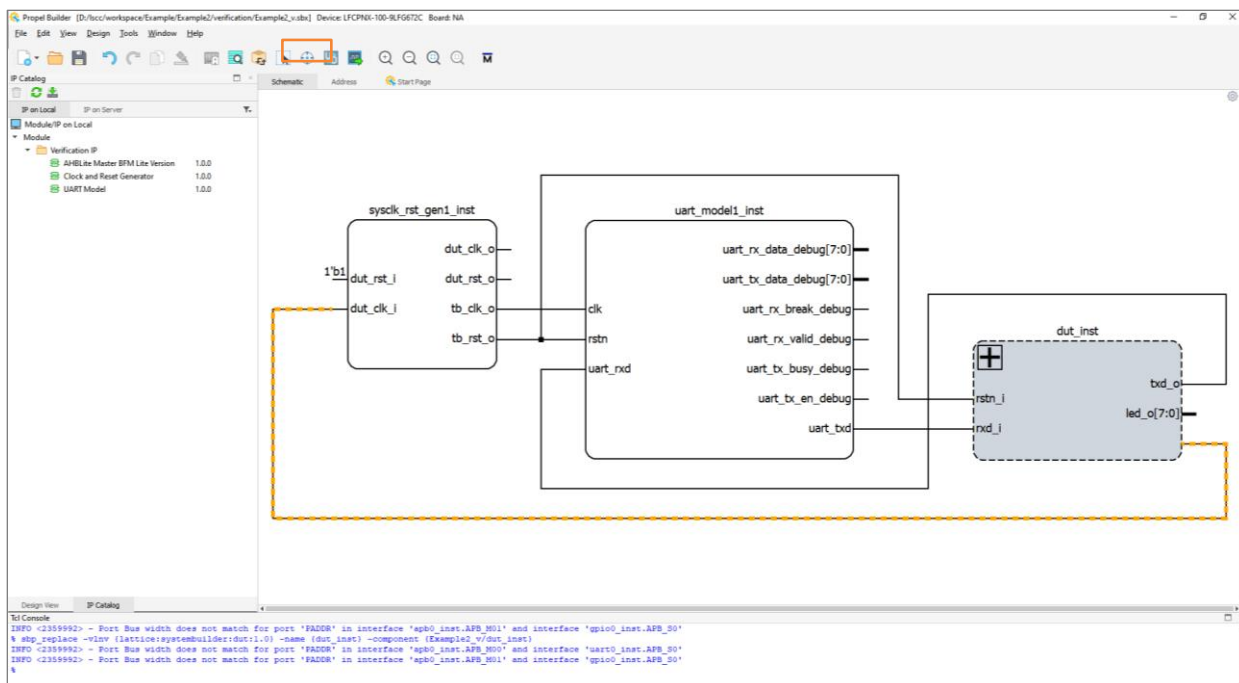

Figure 2.158. Verification Project
3. Click **Yes** to save the current design project. The Propel Builder GUI switches to verification project (Figure 2.158).
- If you want to go back and design more on SoC project, click **V/D** button  on the verification project window to go back to the SoC design project.(Figure 2.158)